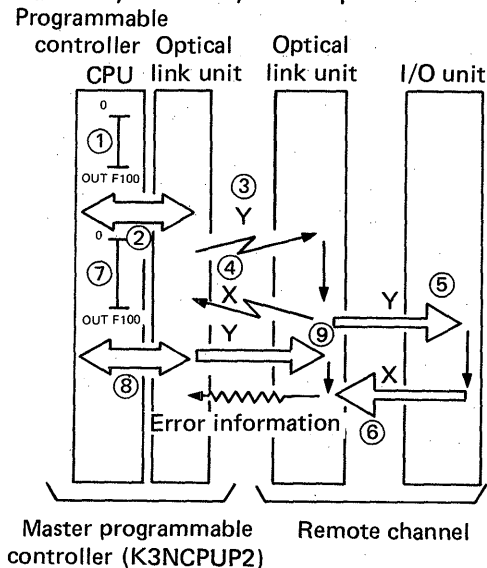

Fig. 3.2
If the sequence program of programmable controller CPU is short as shown in Fig. 3.2, Y data are sent from the optical link unit of master channel to the remote channel as shown by ⑨ although the optical link unit of remote channel is communicating X/Y data in ⑤ to ⑥. At this time, error information is returned from the optical link unit of master channel to the optical link unit of remote channel, and at the same time, the preceding X data are transferred. Each time the master programmable controller receives error information, it elongates the present operation processing time (step 0 to step 0) by 5 ms and at the same time, adds "1" to the contents of internal data register DA04.